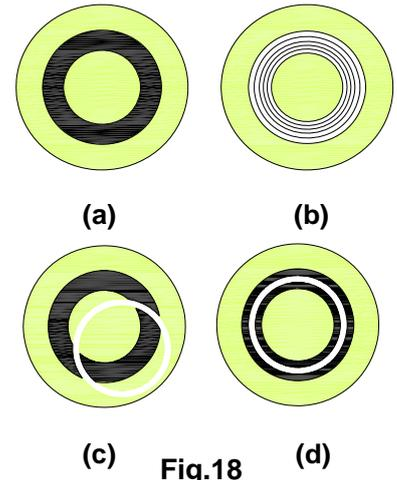

Fig.16
- 4) Turn the annular ring disk to put the corresponding ring into light path, i.e. if you are using the 20X phase contrast objective, you should turn the disk at 20 as shown in **Fig. 16**.